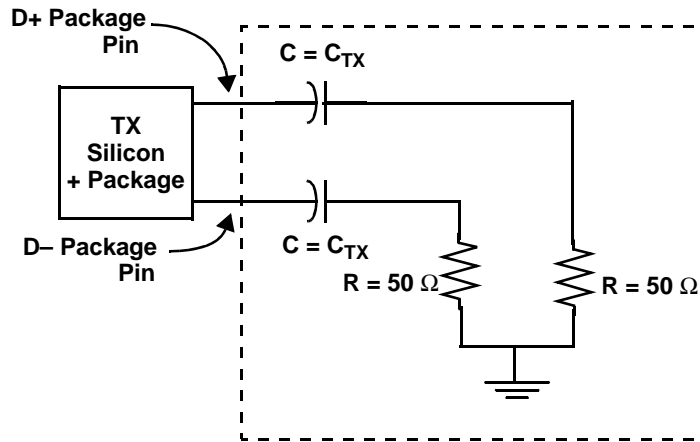

**Figure 18. Single Frequency Sinusoidal Jitter Limits**
2. Total jitter is composed of three components, deterministic jitter, random jitter, and single frequency sinusoidal jitter. The sinusoidal jitter may have any amplitude and frequency in the unshaded region of Figure 18. The sinusoidal jitter component is included to ensure margin for low frequency jitter, wander, noise, crosstalk, and other variable system effects.
1. See Figure 18 for single frequency sinusoidal jitter limits
2. Refer to RapidIO™ 1x/4x LP Serial Physical Layer Specification for interpretation of jitter specifications. Also see Figure 18.